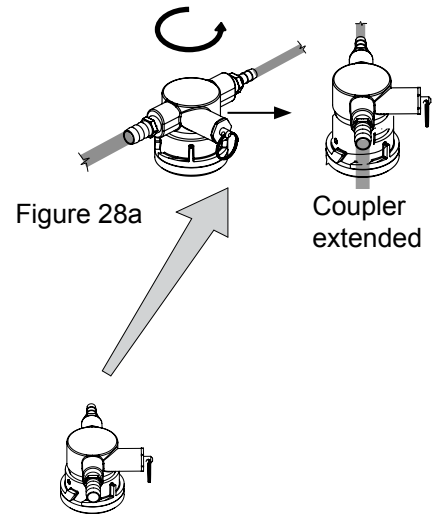

Figure 28a
9. Hooking up the keg coupler to the keg: Verify the coupler is in the "OFF" position (see Figure 28a). Align the lugs on the keg with the corresponding openings on the keg coupler and turn clockwise until the coupler stops (about 90°). Push down and twist the top of the coupler clockwise to allow gas to enter the keg.